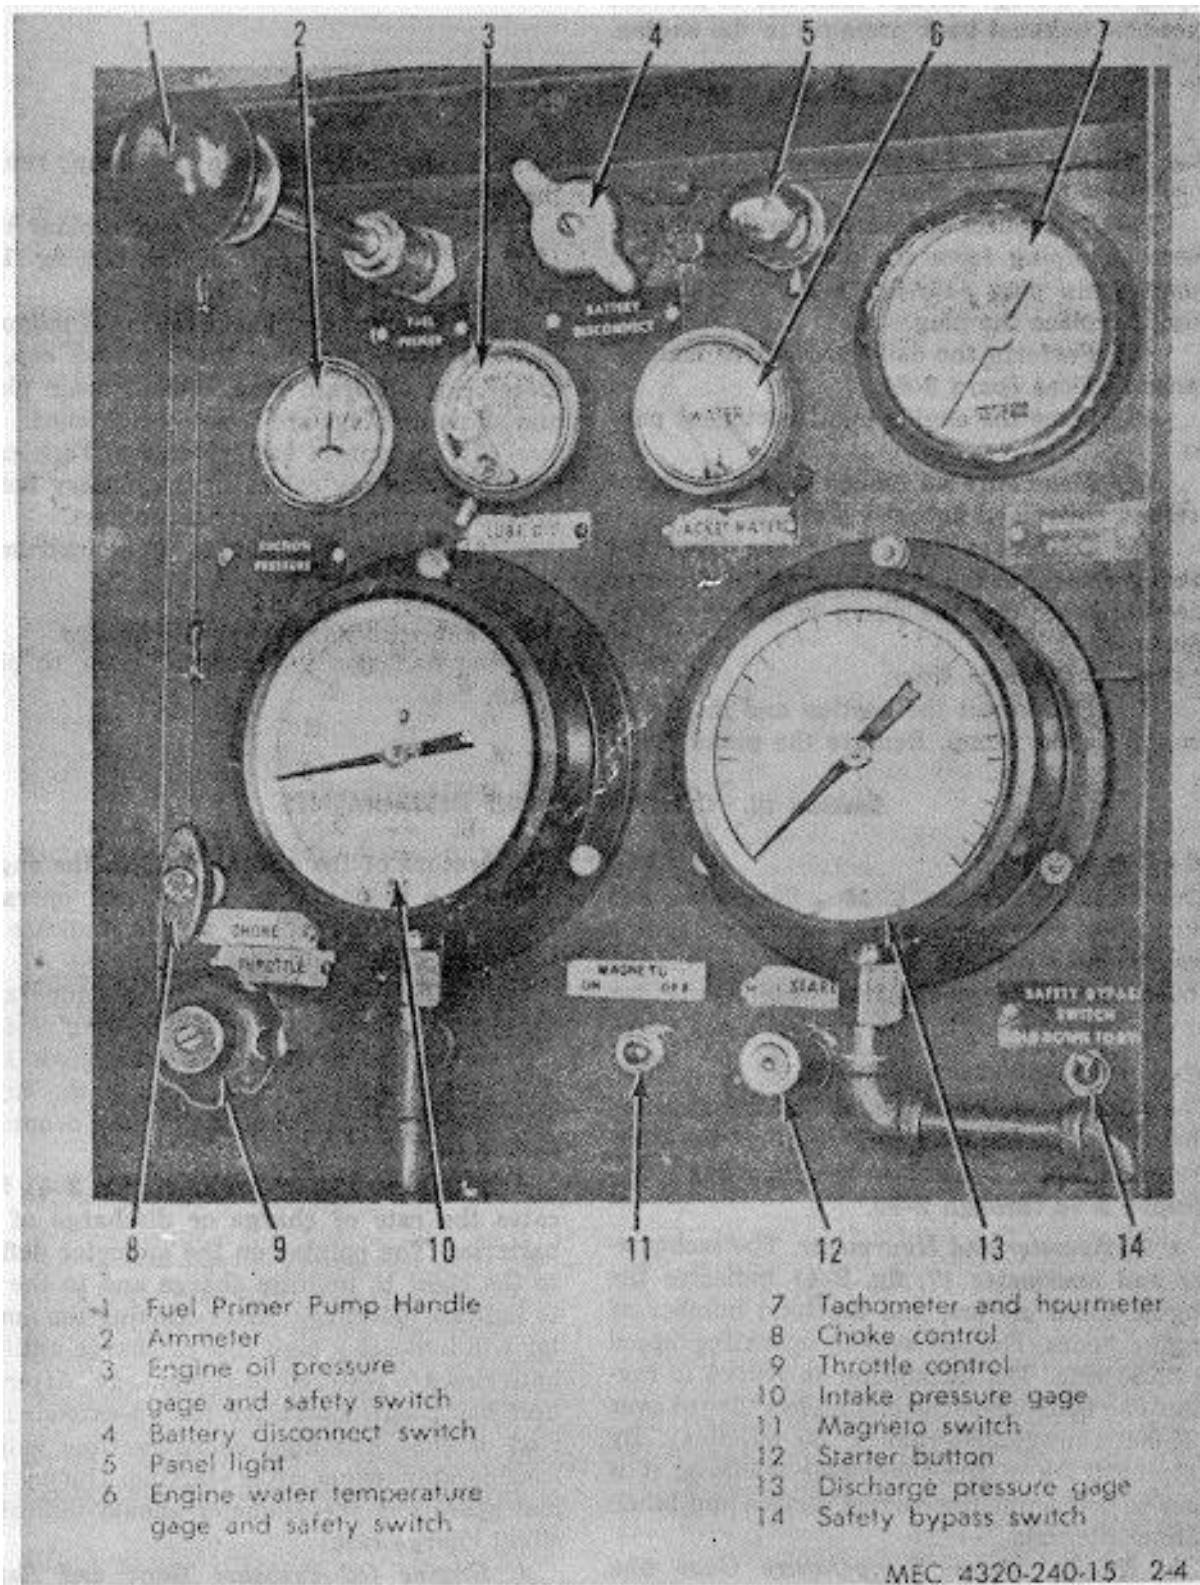

Figure 2-4. Controls and instruments.
The purpose of controls and instruments and their normal and maximum readings are illustrated in figure 2-4 and in the following paragraphs 2-9a through 2-9o.
a. *Tachometer and Hourmeter.* The tachometer and hourmeter (7, fig. 2-4) indicates the engine speed in rpm, and the total number of engine hours. Normal engine operating speed is 2,250 rpm. The tachometer is geared to register one hour when the engine has turned over, 135,000 rpm (2,250 rpm X 60 minutes). By keeping track of the hourmeter readings, it is easy to determine the correct service and lubrication intervals.
(1) The engine water temperature gage and safety switch (6, fig. 2-4) indicates the temperature of the cooling fluid in the engine. When the engine is at its
(2) The gage incorporates a temperature safety switch designed to shut the engine down if the temperature of the coolant exceeds 190°. The switch will permit starting of the engine when the temperature of the coolant drops to a safe level.
c. *Ammeter.* The ammeter (2, fig. 2-4) indicates the rate of charge or discharge of the batteries. The pointer on the ammeter deflects to the right to indicate charge and to the left to indicate discharge. After starting the ammeter will indicate a high rate of charge until the batteries are restored to full charge. After the unit has been inoperative for an extended period of time, the high charging time will be considerably longer after starting. During normal operation, the ammeter should indicate a slight charge rate.
(1) The engine oil pressure gage and
safety switch (3, fig. 2-4) indicates the oil pressure of the engine lubrication system. The normal oil pressure reading when the engine is running at 2,250 rpm and at normal operating temperature is between 40 and 50 psi (pounds per square inch). The normal oil pressure reading at idle speed (400 to 600 rpm) is over 7 psi.
(2) The engine oil pressure gage includes an integral oil pressure safety switch which automatically shuts off the engine if oil pressure drops below 7 psi. It includes a reset button at the bottom of the gage. To start the engine after low pressure shutdown, first determine and correct the cause of the failure; press the reset button before starting the engine, following the normal starting procedures.
e. *Throttle Control.* The throttle control (9, fig. 2-4) provides a means of adjusting engine speed. Pulling the lever to the fullout position produces full speed (2,250 rpm). Pushing the lever to the full-in position produces idle speed. f. *Fuel Primer Pump Handle.* The fuel primer pump handle (1, fig. 2-4) operates the primer pump used to pump gasoline into the intake manifold for cold weather starting. When ambient temperatures are below freezing, pump the handle five or six times before starting. Leave the handle in full-in position while the pumping unit is operating.
g. *Discharge Pressure Gage.* The discharge pressure gage (13, fig. 2-4) indicates pressures on the discharge side of the pump. Normal gage readings are from 0 to 300 psi.
h. *Magneto Switch.* The magneto switch (11, fig. 2-4) when pulled out, closes the magneto circuit. Pull out before starting the engine. Push to shut off the engine.
i. *Starter Button.* The starter button (12, fig. 2-4) when depressed, completes a circuit that actuates the starting motor. When the starter button is pushed in, a circuit from the batteries to the starting motor is
j. *Intake Pressure Gage.* The intake pressure gage (10, fig. 2-4) indicates the pressure or vacuum at the intake side of the pump. Normal readings are from 30 inches of mercury vacuum to 100 psi pressure.
k. *Choke Control.* The choke control (8, fig. 2-4) is mechanically connected to the carburetor choke lever. The choke is fully closed when the choke control knob is pulled out as far as it will go; the choke is open when the knob is pushed in as far as it will go. Close the choke to facilitate starting a cold engine. As the engine temperature rises, operate the choke to the open position until it is fully opened when engine temperature rises to normal.
l. *Battery Disconnect Switch.* The battery disconnect switch (4, fig. 2-4) when opened, breaks the circuit between the batteries and the starting motor. The switch must be in the ON position when the pumping unit is being started or is operating.
m. *Safety Bypass Switch.* The safety bypass switch (14, fig. 2-4) provides a means of overriding the control that automatically shuts down the engine if conditions of excessive water temperature or low oil pressure are encountered.
b. After the engine has warmed up, pull out the throttle (9, fig. 2-4), so that the engine operates at governed speed (approx. 2,250 rpm).
(1) Increase or decrease the pumping rate of the pump by varying the setting of the throttle. No other control operation is necessary during operation.
(2) Do not completely close any valves in the discharge line. This will cause heating of the fluid in the pump. Make sure that some passage of liquid continues through the pump during operation.